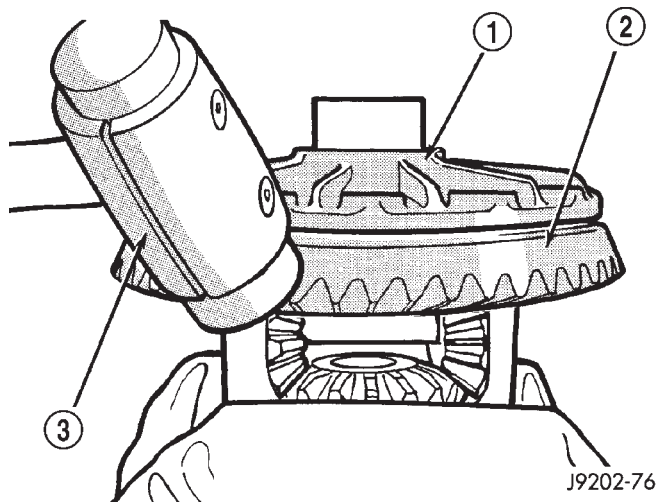

Fig. 65 Ring Gear Removal
- (1) Remove differential from axle housing.
- (2) Place differential case in a suitable vise with soft metal jaw protectors. (Fig. 65)
- (3) Remove bolts holding ring gear to differential case.
(4) Using a soft hammer, drive ring gear from differential case (Fig. 65).